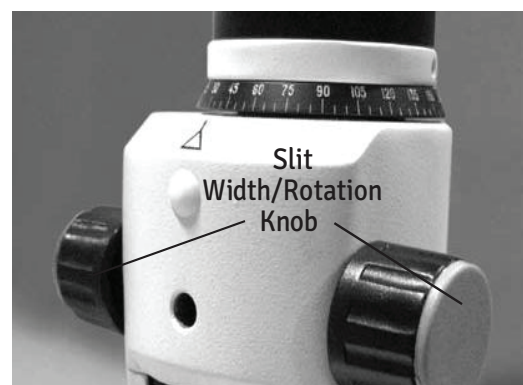

Figure-15 Adjust Slit Width
11. The slit width can be adjusted by rotating the Slit Width/Rotation Knob on either side of the instrument. Refer to figure-15.